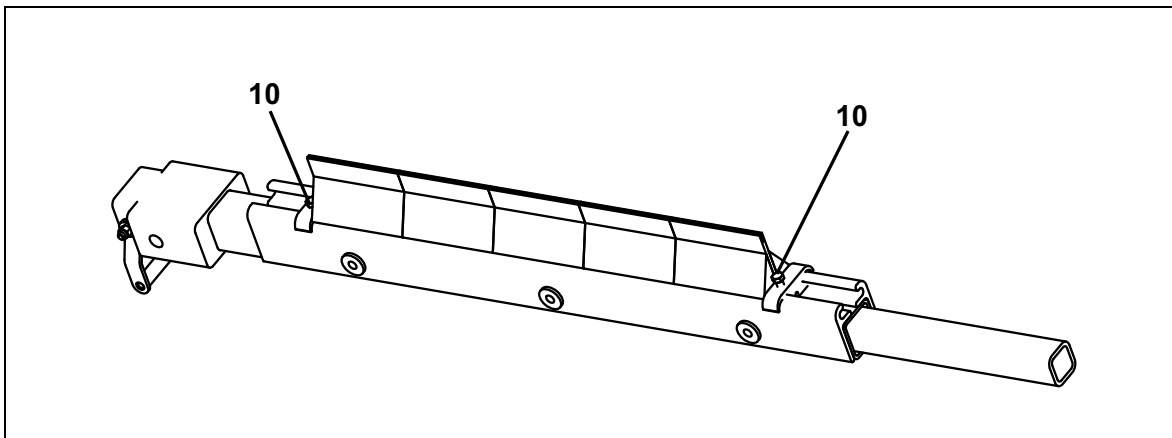

Fig. 29
b) Remove the blades (1, Fig. 29) from the cartridge.
The screwed-on lateral guidance (2, Fig. 29) can be additionally removed if the blades are stuck. The lateral guidance must be reinstalled before the new blades can be inserted.